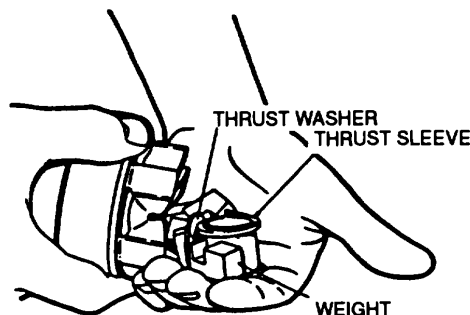

FIGURE 3-62. Disassembling Governor
- ag. To disassemble governor, invert hydraulic head and let six weights (18), sleeve (19), and thrust washer (20) fall into your hand. Remove preformed packing (21) from hydraulic head, refer to FIGURE 3-62.